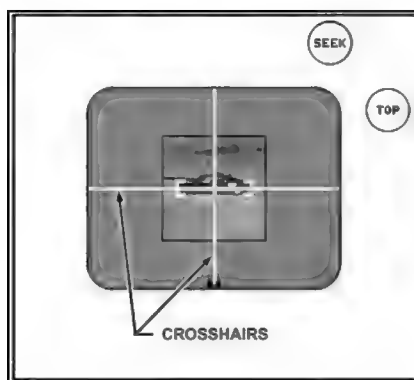

Figure 2-15. Crosshairs.
d. **Crosshairs.** The gunner uses the crosshairs (Figure 2-15) to designate the center of mass, which the seeker locks on. The crosshairs first appear and are flashing when the gunner squeezes and holds the seeker trigger. After the seeker locks on the target, the track gates and crosshairs become solid.